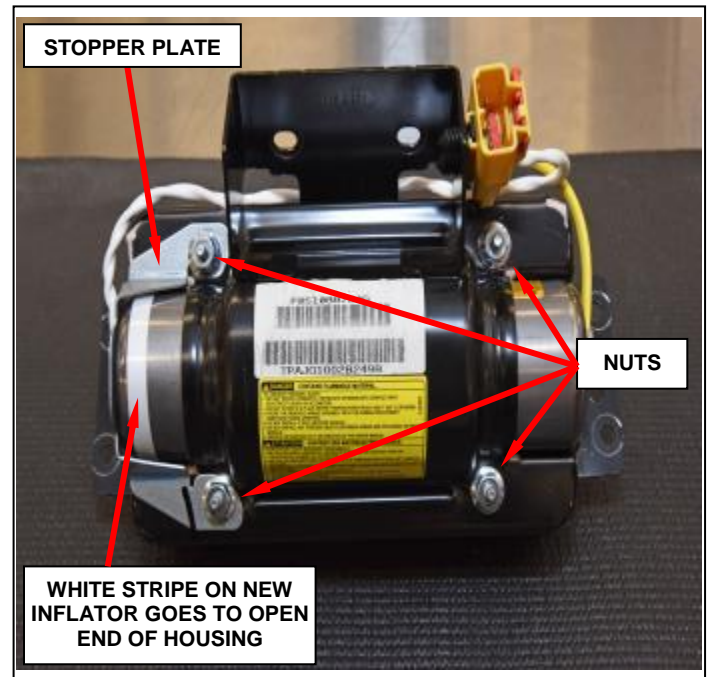

Figure 71 – Stopper Plate and Nuts
o. Position the stopper plate to the airbag housing (Figure 71).
p. Install the four **NEW** mounting nuts to the airbag housing and tighten to 53 in. lbs. (6 N·m) (Figure 71).